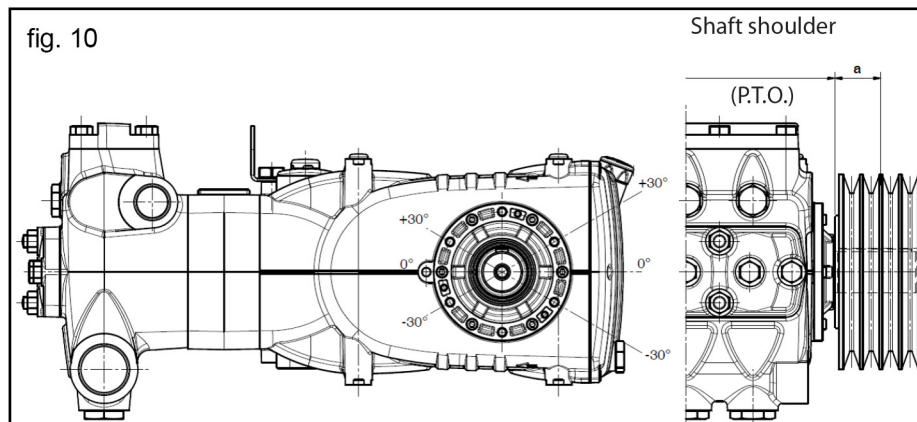

fig. 10
The pump can be controlled by a V-belt system. For this pump model, we recommend use of 4 XPB belts (16.5 x 13 serrated). Use an XPC profile only for long durations. Both the characteristics and transmissible power of each belt can be verified in the diagram in fig. 7, in relation to the number of rpm normally declared by the manufacture. Minimum duct pulley diameter (on pump shaft): ≥ 9.84 in (250 mm). The radial load on the shaft must not exceed 1686.1 Lbs (7500 N) (value necessary for layout definition). The transmission is considered adequate if the load is applied to a maximum distance $a=1.57$ in (40 mm) from the shaft shoulder (PTO) as shown in fig. 10.
B) Use high performance belts - for example **XPB** instead of **SPB** - as a lower quantity of belts for the same transmitted power may be necessary and a consequent shorter resulting distance compared to the shaft shoulder (PTO) "a" of fig. 10.